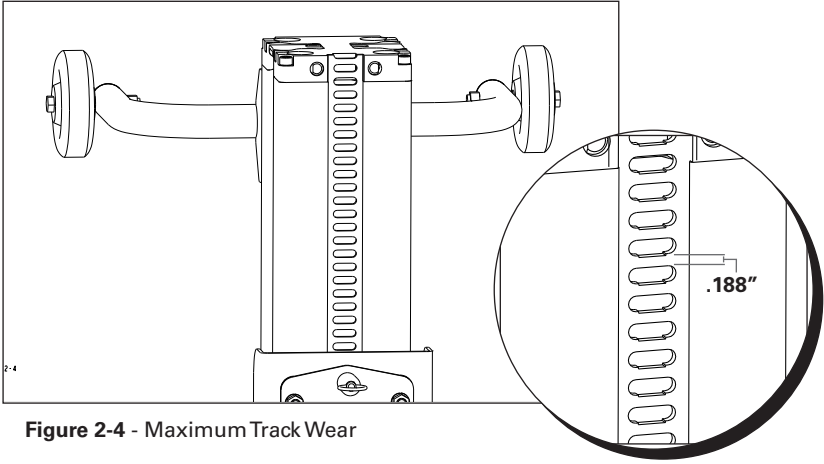

Figure 2-4 - Maximum Track Wear
7. **Track Sections** - Check that the teeth of all the track sections are not excessively worn (.1875" tooth remaining), bent, misshapen or missing. (See Figure 2.4)